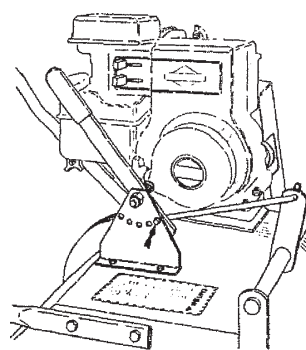

Fig. 1
1. Position height adjustment lever to the start/transport position (see Fig. 1).